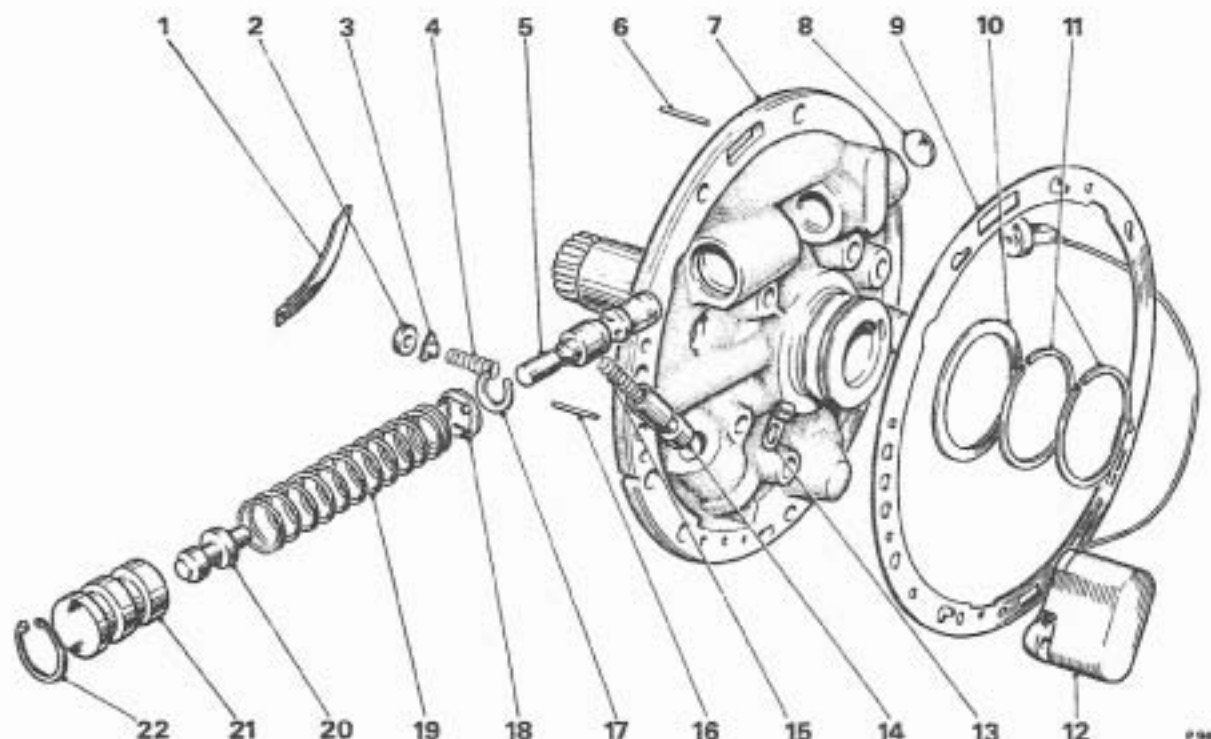

FIG. T229 PUMP COVER—EXPLODED
10. Examine the stator valve bore and the pressure regulator valve bore for scores or dirt (see Fig. T229).